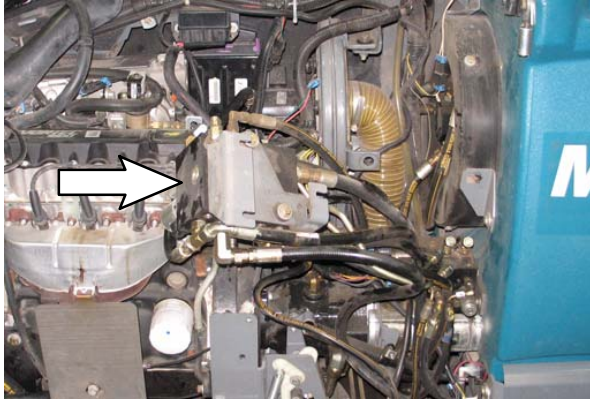

FIG. 13
19. Reinstall the scrub valve assembly onto the solution tank. (Fig. 13)